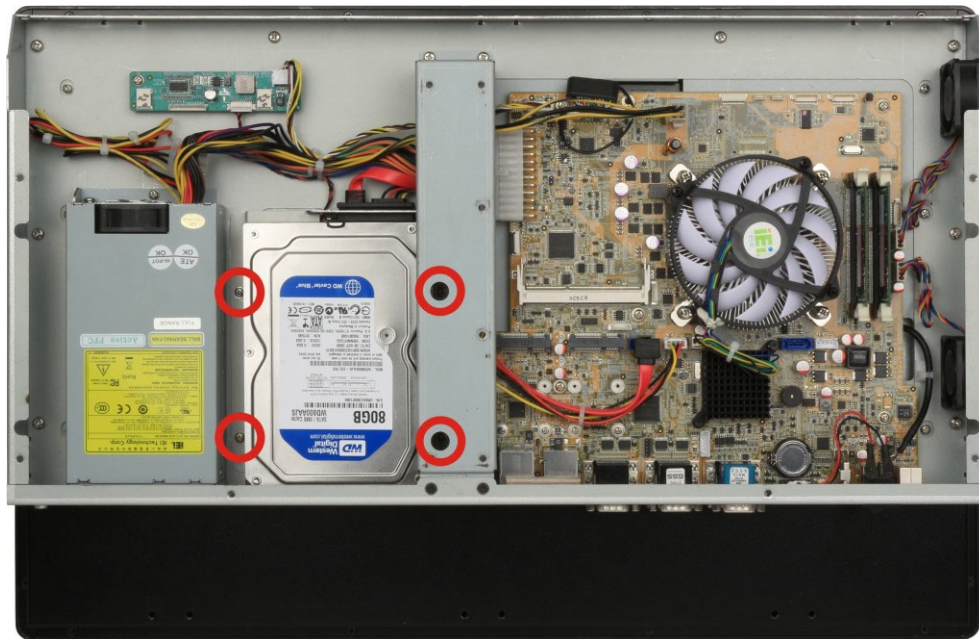

Figure 3-11: Replacing the PPC-F22A/F24A-H81 HDD Bracket
Step 5: Reinstall the HDD bracket into the PPC-FxxA-H81 and fasten the four hard drive bracket screws (Figure 3-11).